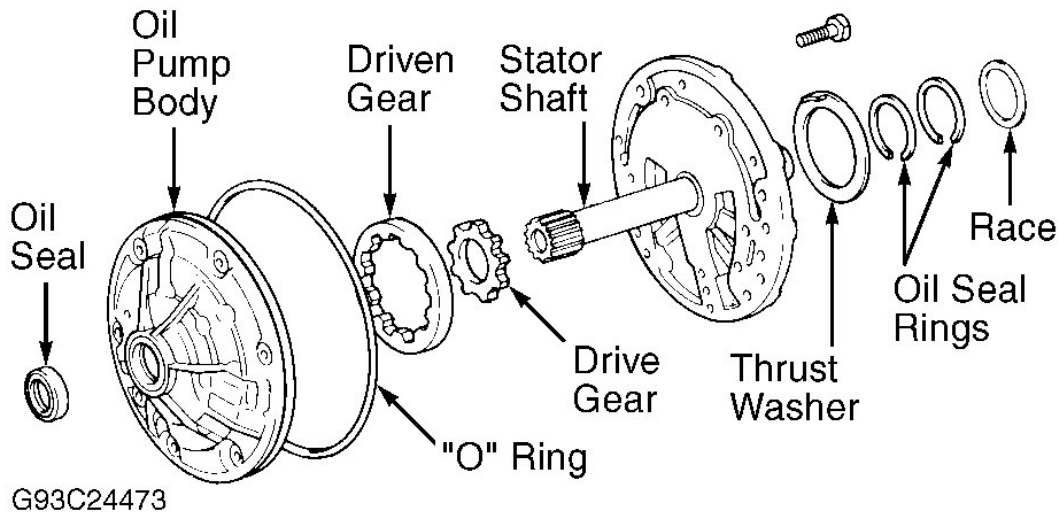

Fig. 30: Exploded View Of Oil Pump Assembly
2. Mark stator shaft and oil pump body for reassembly reference. Remove stator shaft bolts. Separate stator shaft and oil pump body. Mark gear location for reassembly reference. Remove pump gears. Using screwdriver, remove front seal. See **Fig. 30**.
2. Coat thrust washer with petroleum jelly. Install thrust washer on oil pump body. Align washer tab with oil pump body. Install oil seal rings. Use care not to over expand rings. Using screwdrivers, check drive gear for smooth rotation. Install "O" ring. Install race on stator shaft. See **Fig. 30**.